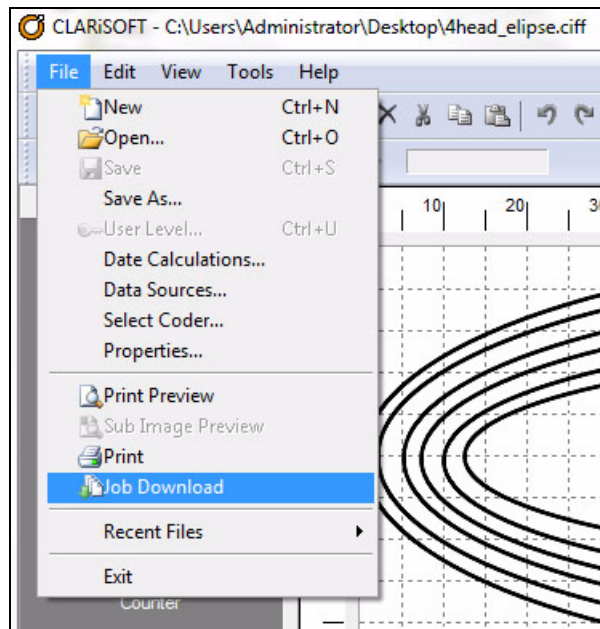
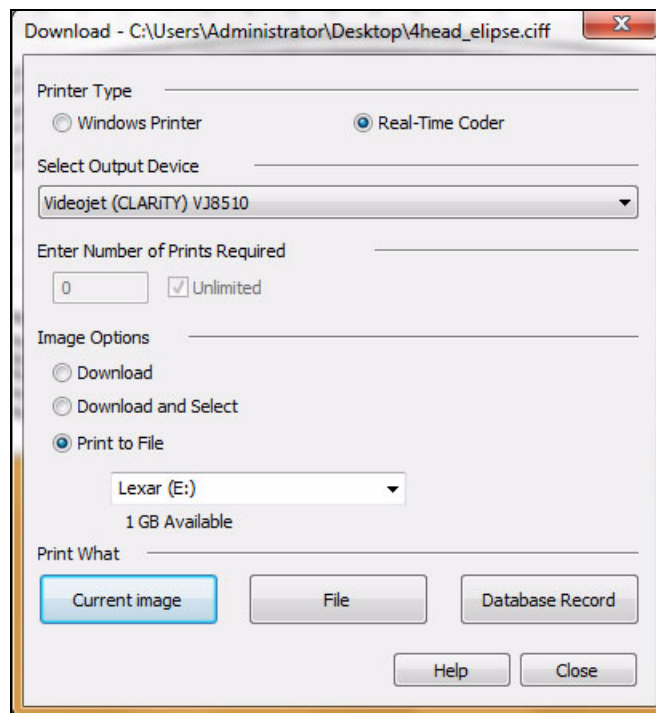

Figure 6-6: Job Download Command
Figure 6-7: Job Download Command
- 2 On the *File* menu, click *Job Download* (see Figure 6-6). The *Download* window appears (see Figure 6-7 on page 6-6).
- 3 Select the correct printer name from the Printer Type, (see Figure 6-7).